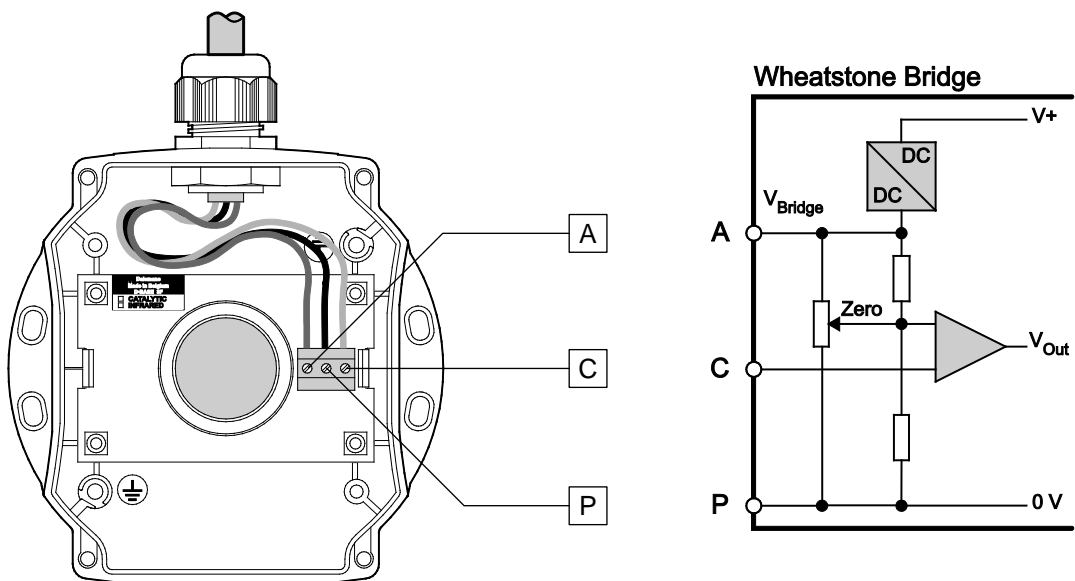

Figure 6: D•TEX3F electrical connection
- Check that electrical connections have been made properly according to diagram on Figure 6.
- Fit the replacement PCB and restore electrical connection according to diagram on Figure 6 .
- Re-fit the D•BASE 3F PCB and restore connections according to diagram on Figure 6.